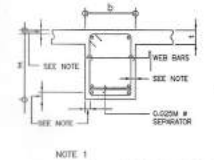

FIG. B-2
- IF THERE ARE TWO OR MORE LAYERS OF REINFORCING BARS, USE 25mm ϕ BAR SEPARATORS SPACED AT 1.0M ON CENTER. IN NO CASE SHALL THERE BE LESS THAN TWO (2) SEPARATORS BETWEEN TWO LAYERS OF BARS.
- MINIMUM CONCRETE PROTECTION FOR REINFORCING BARS OR STEEL SHAPEE SHALL BE AS SHOWN IN FIG. B-2 UNLESS SPECIFIED ELSEWHERE.